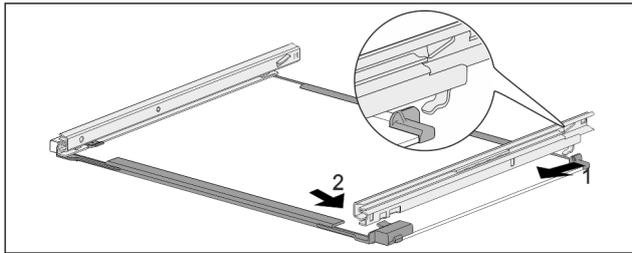

Fig. 151 Glass shelf with rails
- ▶ Hook in rail at the back. Fig. 151 (1)
- ▶ Hook in rail at the front. Fig. 151 (2)